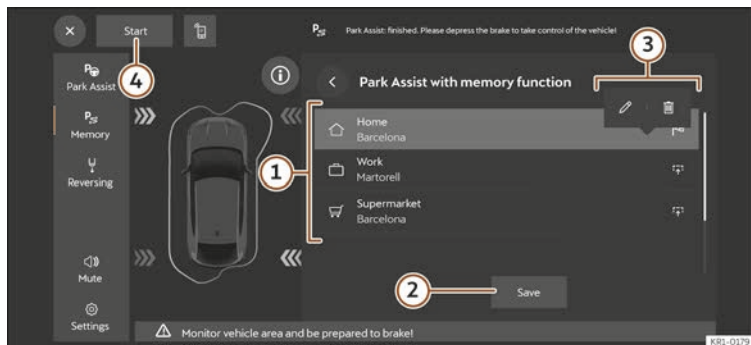

Fig. 148 Schematic representation: Park Assist with memory function menu.
4. Select the function button, assign the symbol you want (>>> **Fig. 148 ①**) and confirm it.
3. Press the **Start** button >>> Fig. 148 ④.